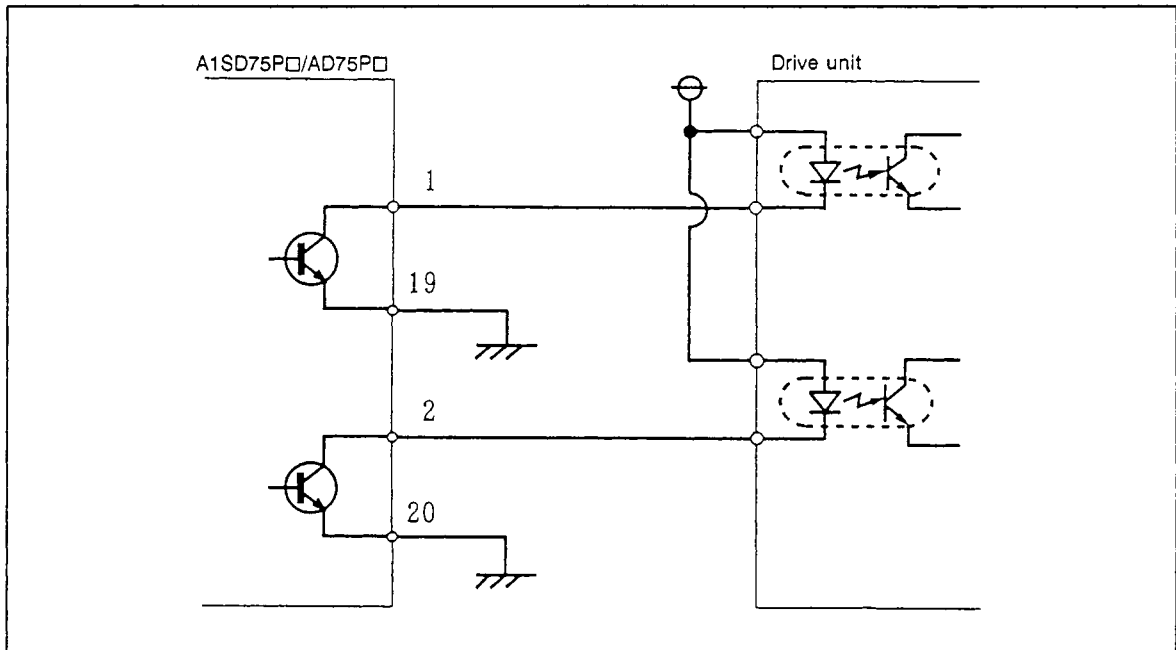

Fig. 2 Example of connection to A1SD75P□/AD75P□ open collector
- When connecting the A1SD75P□/AD75P□ and drive unit with an open collector method, wire as shown in Fig. 2.